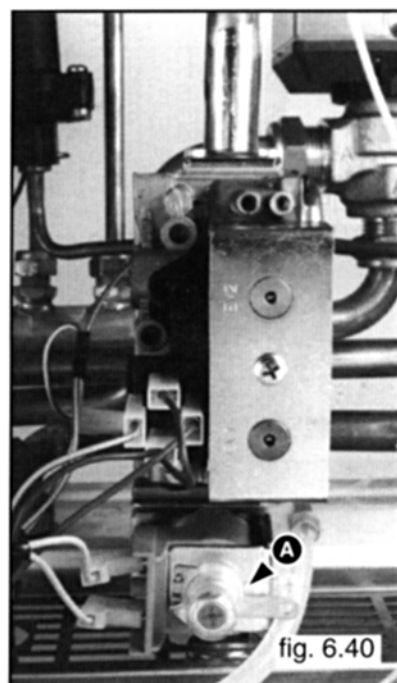

fig. 6.40
- 3 Turn the protection cap "A" and remove it from the adjustment control. Use a flat-edge screw driver to help removal (see fig. 6.40);